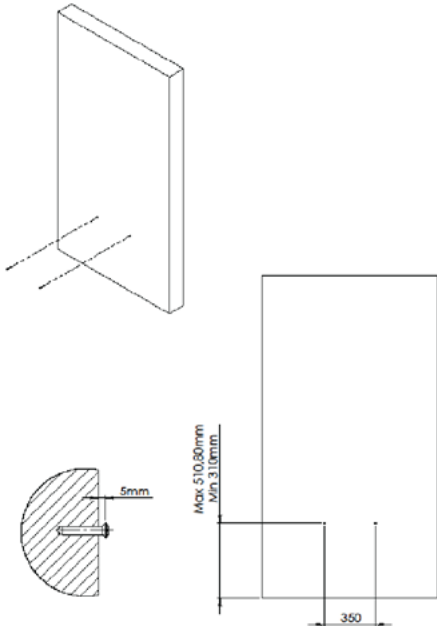

Figure 3.3: Installing bolts for middle mounting holes
3.2.2 Turn the bolts in the middle fixing holes of the wall leaving them unturned by 5 mm (figure 3.3).